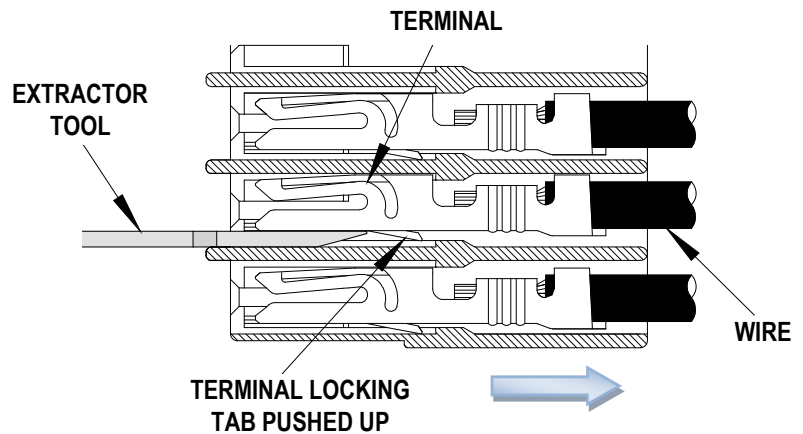

Figure 20
3. Pull the wire and terminal back through the Connector slot in the arrow direction as shown. See Figure 20.